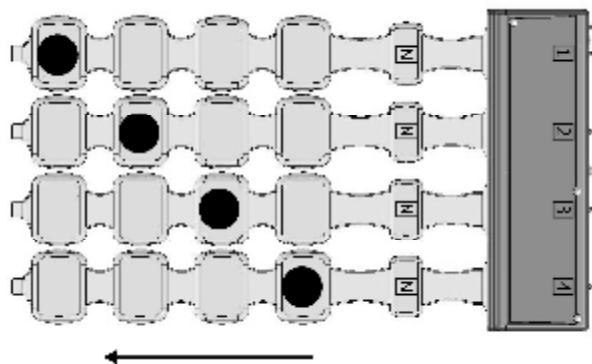

Fig. 17
- «traveling diagonal» ( fig. 17) - sequential excitation of the coil-inductors, being placed diagonally, with the following one-way excitation of the neighboring coil-inductors according to the cyclic law; cycle for this scan type forms seven “step” excitation ( according to the number of coil-inductors excitation possible combination: 1-2-3-4-3-2-1).